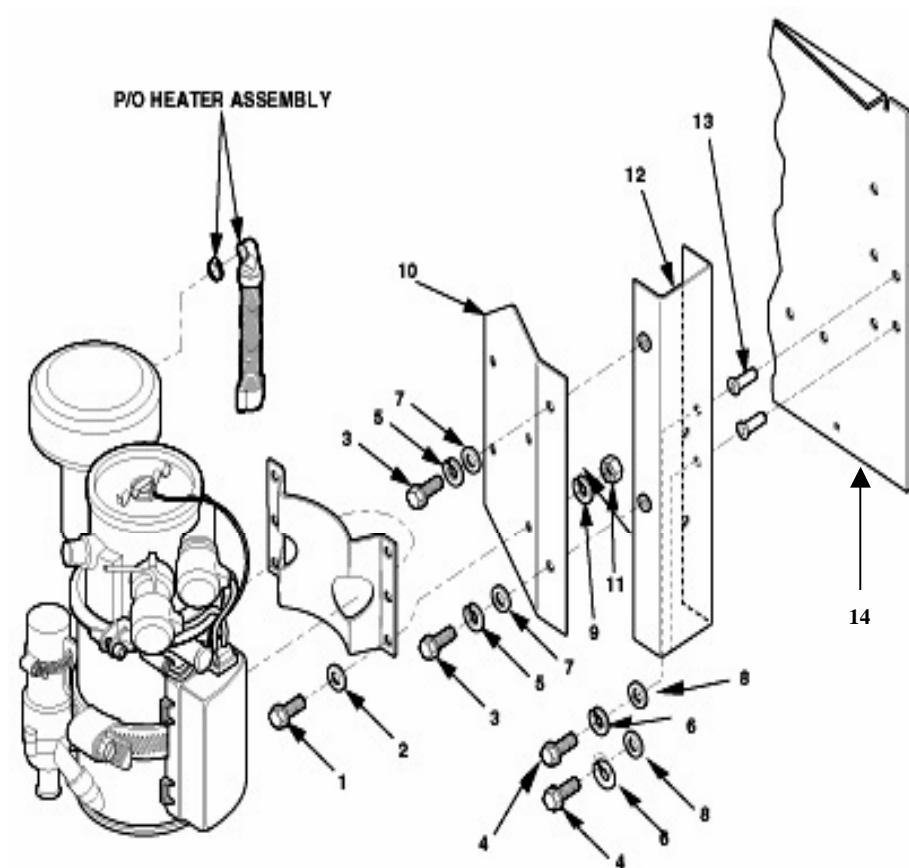

Figure 4-23. Heater Attachment Maintenance.
3. Support heater. Remove screws (1, 3, 4), Figure 4-23, washers (2, 7, and 8), nut (11), lock washers (5, 6, and 9) and heater from heater mounting brace (10). Then, remove heater-mounting brace (10) from wall mounting bracket (12), and wall mounting bracket (12) and screws (13) from generator housing (14).
5. Install wall-mounting bracket (12) with screws (4, 13), lock washers (6) and washers (8) to generator housing (14).
6. Install heater to heater mounting brace (10) with screws (1), washers (2), lock washers (9) and nut (11).
7. Install heater-mounting brace (10) to wall mounting bracket (12) with screws (3), lock washers (5), and washers (7).